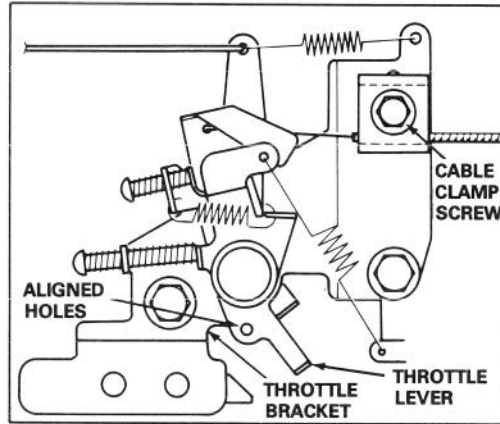

Figure 13
4. Loosen cable clamp screw until throttle cable slides (Fig. 13). Align holes in throttle lever and throttle bracket. Pull throttle cable slightly to remove any slack and tighten cable clamp screw to lock adjustment in place.